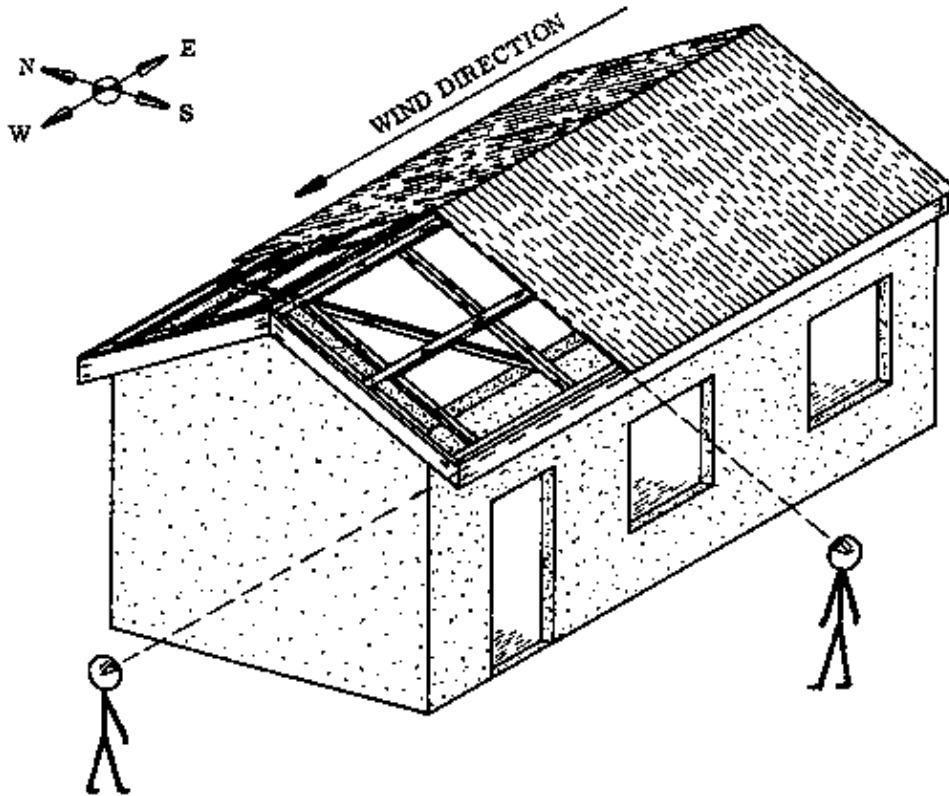

Fig. 1
The helpers can also check from both sides of the roof to see if the corrugations match at the ridge line (Fig. 1).
– SEQUENCE OF OPERATIONS: In order to join the overlaps correctly, follow this sequence, starting from the end of the roof which is in the direction where the strongest winds are coming from (here it is the east) (Fig. 1).